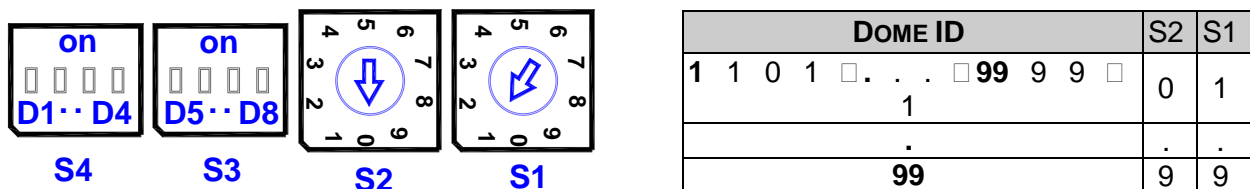

Figure 9 - Setting Dome Camera Address (ID) and Protocol
Refer to Figure 9 for setting the dome camera address (ID) and protocol selection.